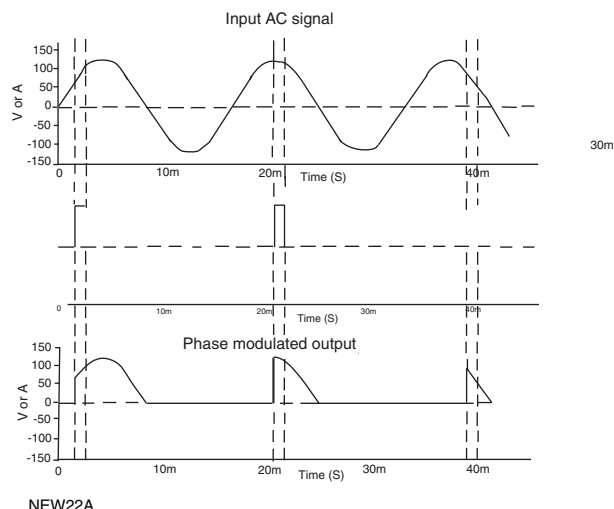

Fig. 21a - Phase Modulation Control
Applications that require a finer control resolution than is achievable with zero-voltage control can be met by using a technique known as phase modulation (PM) control. This technique requires the TRIAC to be fired anywhere along the line voltage conduction angle, with the operating principle being that the conduction angle is varied to increase or reduce the resulting overall RMS voltage at the output, as illustrated in figures 21a and 21b. The disadvantage of this technique is that there is an inherent increase in the level of RF that is generated. When fine resolution is required, however, this is a price that must be paid with greater effort being expended to achieve a low-EMI PCB layout, filtering, and, as a last resort, shielding.